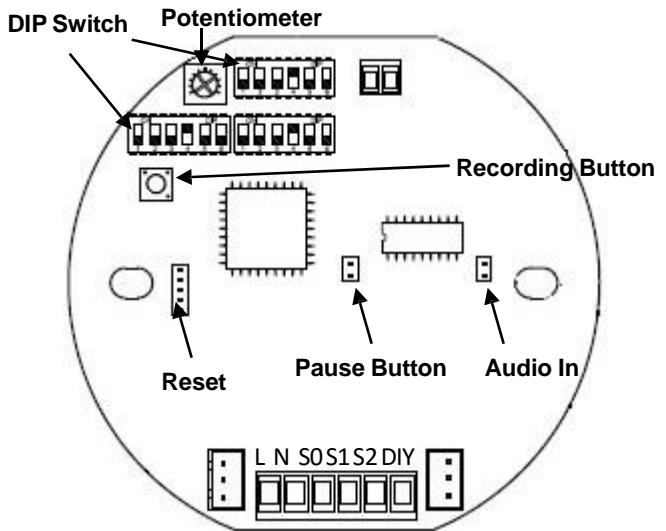

Fig 4
Use the three (3) DIP switches with 6 binary codes on the **Sounder PCB** to select tones (See Fig 4).
The sounder has a volume control to adjust the output volume of the sounder component. To set the required output volume, adjust the potentiometer-VR1 on the PCB (See Fig 4). The potentiometer should be set to fully clockwise position if maximum output volume is needed.
The sounder can provide 4 tones can be recorded by the user. Use the Audio In and Recording Button (See Fig 4) to record.
The sound can pause by pressing the Recording Button. (See Fig 4)